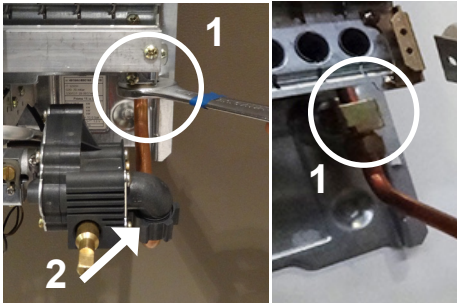
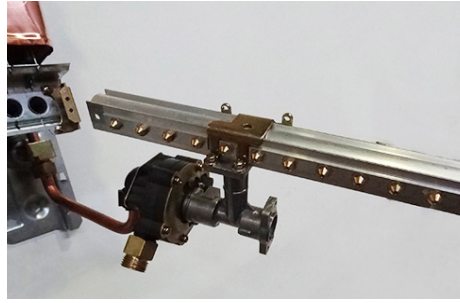

Fig. 17
Fig. 18
- Remove the connection (see part. 1 - Fig. 17) and turn on the right the water valve and the diffuser as indicated in Fig. 18